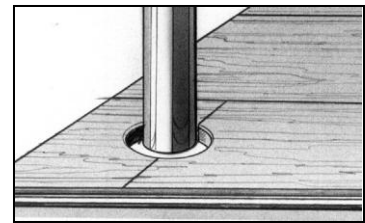

Fig. 35
2. Cut across the piece through the center of the hole (**Fig. 35**).